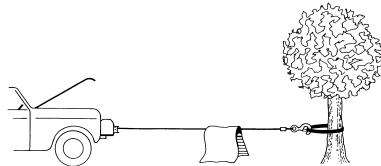

Figure 4
- It is a good idea to lay a heavy blanket or jacket over the wire rope near the hook end when pulling heavy loads (Figure 4). If a wire rope failure should occur, the cloth will act as a damper and help prevent the rope from whipping. Raise the hood of the vehicle for added safety.